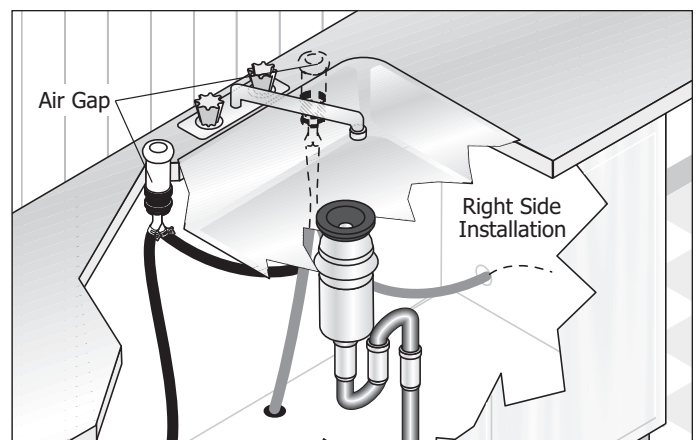

Figure 2-6.
3. If you connect to a sink trap, local codes may require you to install an air gap kit, (not included). The drain hose will be routed from dishwasher to air gap inlet as shown in Figure 2-6. An air gap kit is available from a plumbing supply store. (If the drain hose is installed through the floor, an air gap is necessary).